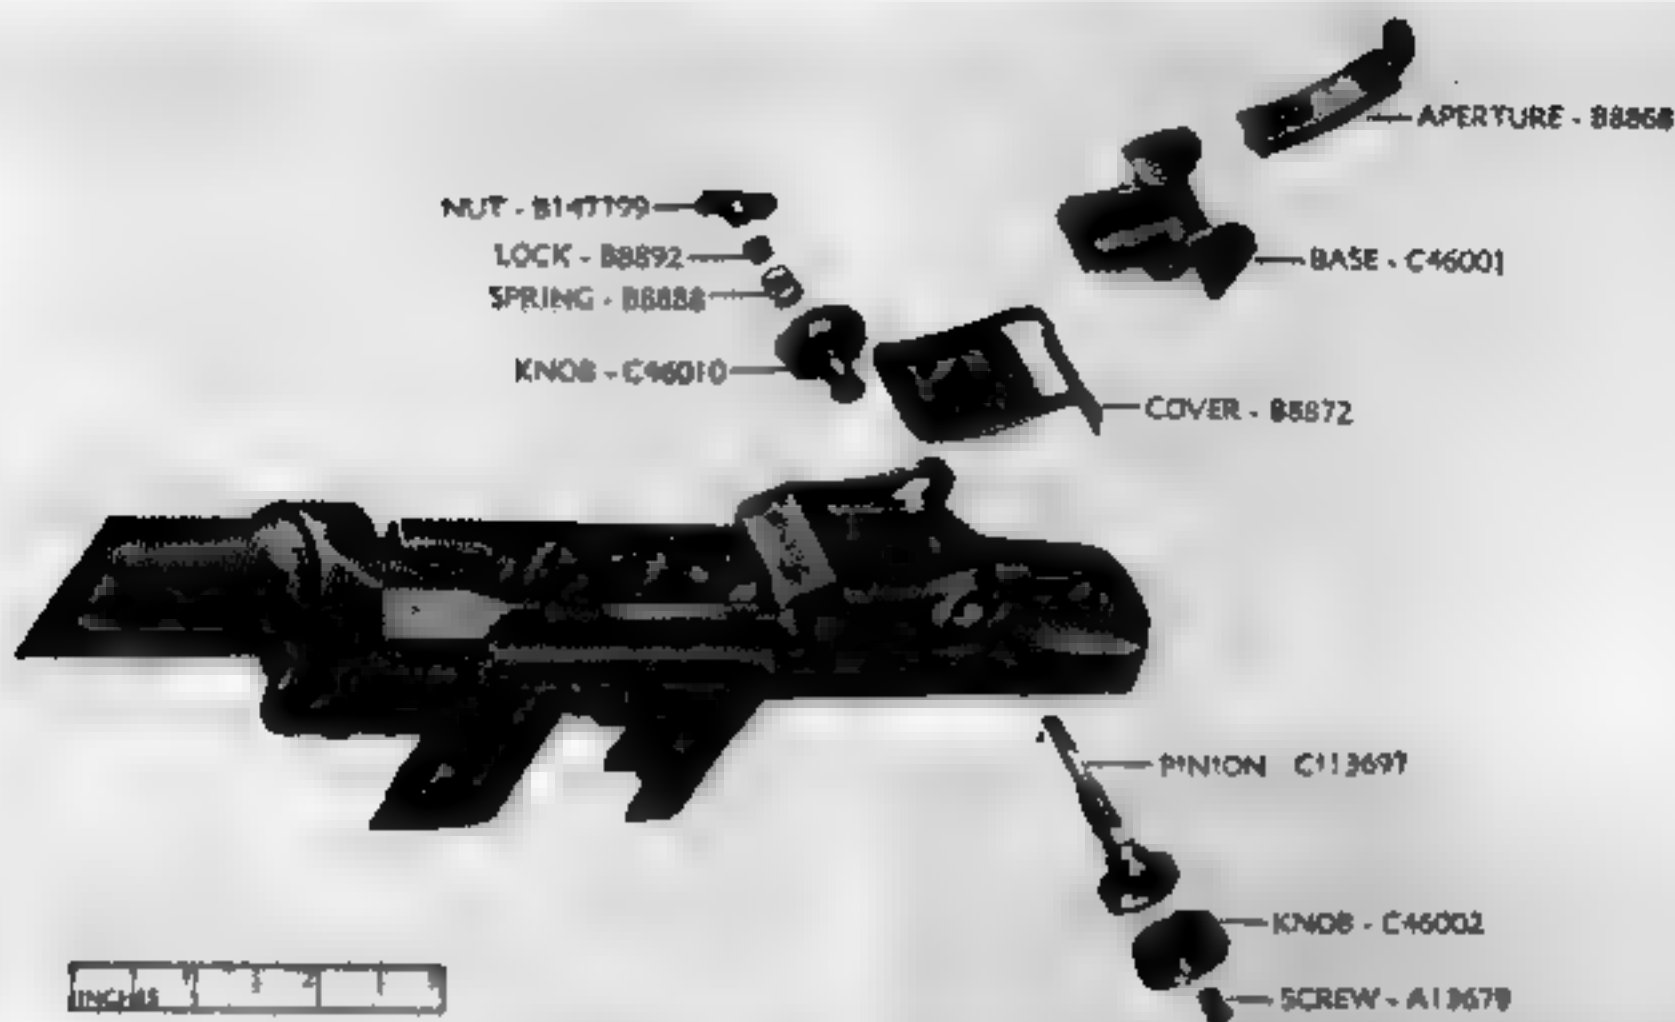

Fig. 132. Rear sight assembly, early manufacture.
60. Rear sights: the rear sights of early and late manufacture (Figs. 132 and 133) differ in construction, as outlined in Para. 24. They should be checked for worn threads, stripped gears, burrs and broken parts.